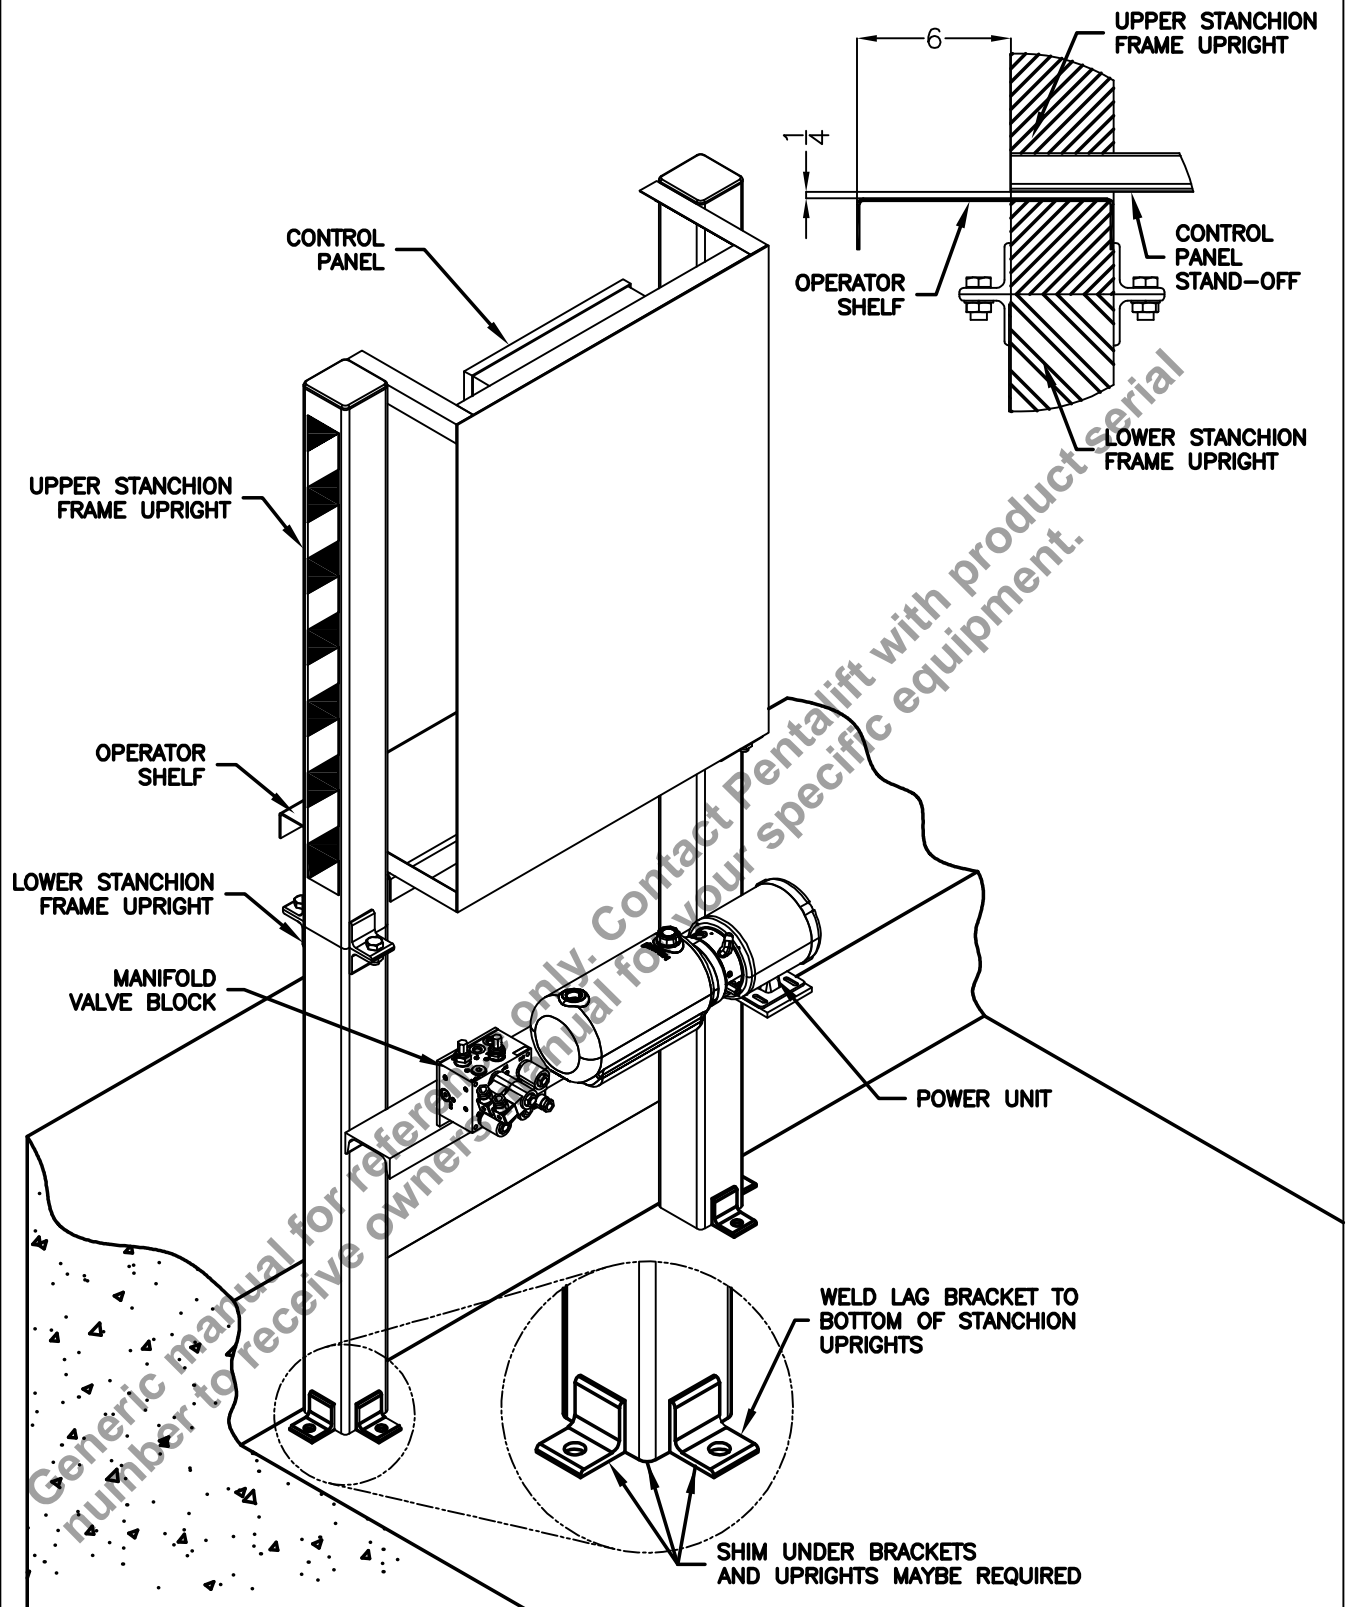

Figure 38: No Full Depth Channel Installation-Continuous Pit/Ledge
2. Position the lower stanchion frame upright at the bottom of the pit and close to the dock front face and allow sufficient space between the stanchion and vertical storing dock leveler to avoid pinch points (see “Figure 38: No Full Depth Channel Installation-Continuous Pit/Ledge” on page 33)
5. Raise and lower the upper stanchion frame upright onto the lower stanchion frame upright and bolt and secure the two halves together with the supplied fasteners as indicated on “Figure 38: No Full Depth Channel Installation-Continuous Pit/Ledge” on page 33.
6. Position the operator shelf between the uprights of the upper stanchion frame and below the control panel stand-off as indicated on “Figure 38: No Full Depth Channel Installation-Continuous Pit/Ledge” on page 33. Weld the operator shelf in place once it is properly positioned.